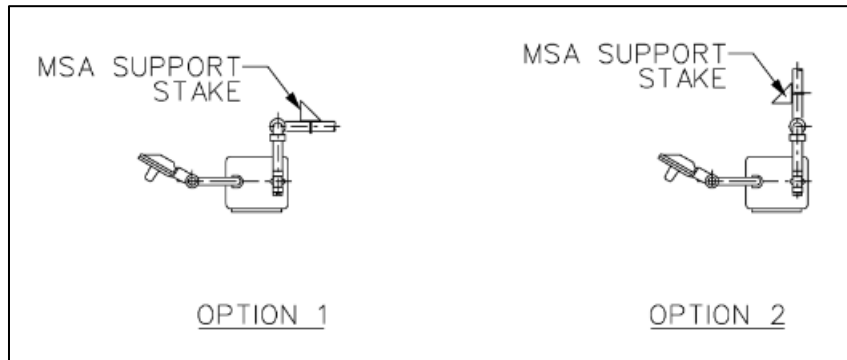

Figure 2. Mobile Home Diaphragm Meter Set – Plan View
- A. Can only be installed in locations identified in Figure 2.